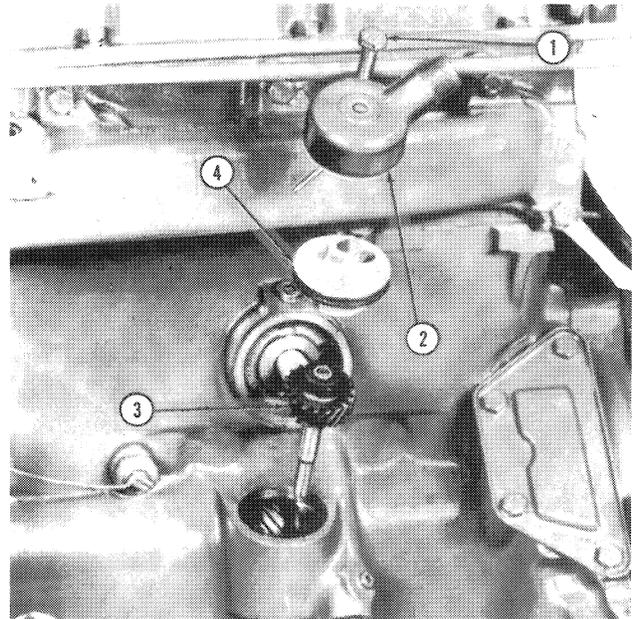

Figure 35
4. Slacken the retaining bolt then withdraw the driveshaft adapter assembly and the oil pump drive gear, Figure 35.